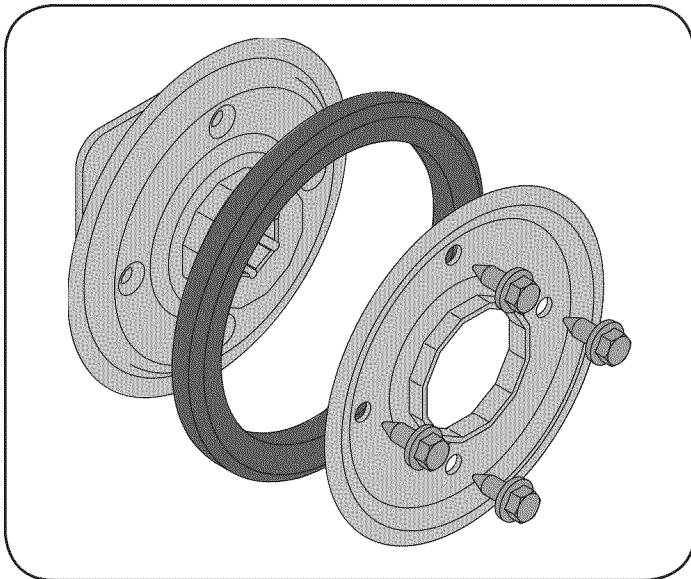

Figure 37
1. Remove the four screws which secure the friction wheel's side plates together. See Figure 37.